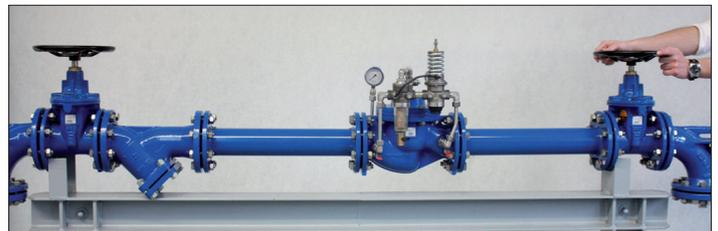

Figure 29: Complete opening of the upstream- and downstream pressure shut-off valve
8. Now open the upstream pressure shut-off valve completely. To do so, slowly open the ball valve installed in the connection line to the float until the line is completely filled. Then slowly open the downstream-pressure shut-off valve (see Figure 29).